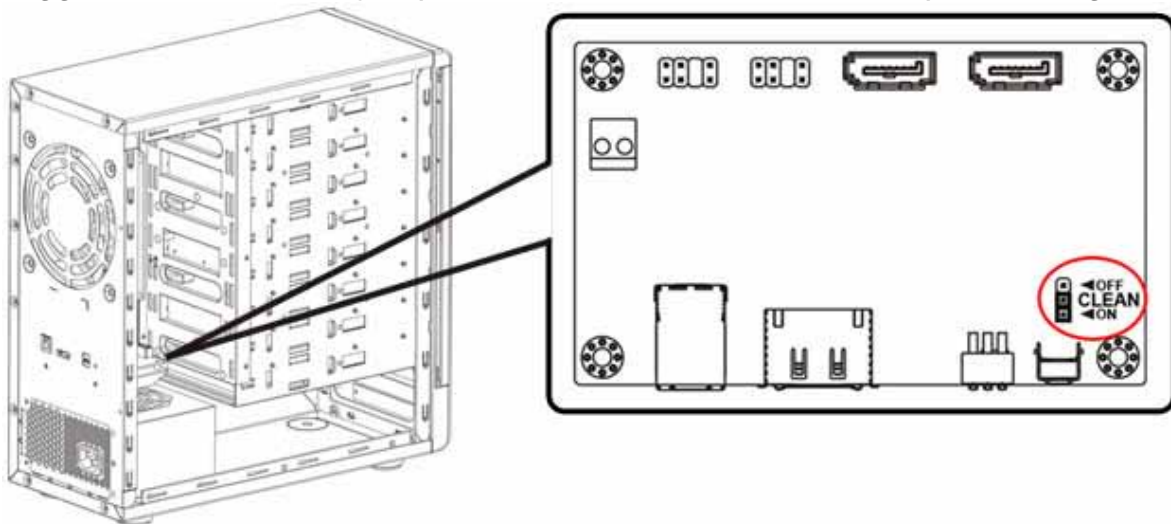

Fig. 11
4. Toggle the Clean mode jumper inside the device to the "On" position (fig. 11).